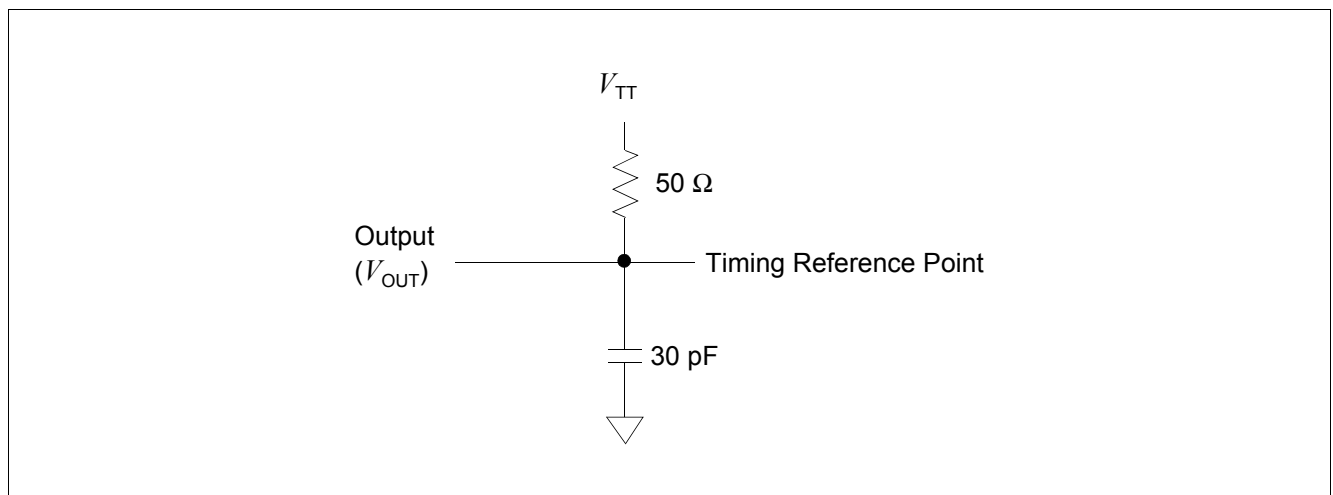

Figure 38 AC Output Load Circuit Diagram / Timing Reference Load
3. **Figure 38** represents the timing reference load used in defining the relevant timing parameters of the part. It is not intended to be either a precise representation of the typical system environment nor a depiction of the actual load presented by a production tester. System designers will use IBIS or other simulation tools to correlate the timing reference load to a system environment. Manufacturers will correlate to their production test conditions (generally a coaxial transmission line terminated at the tester electronics).